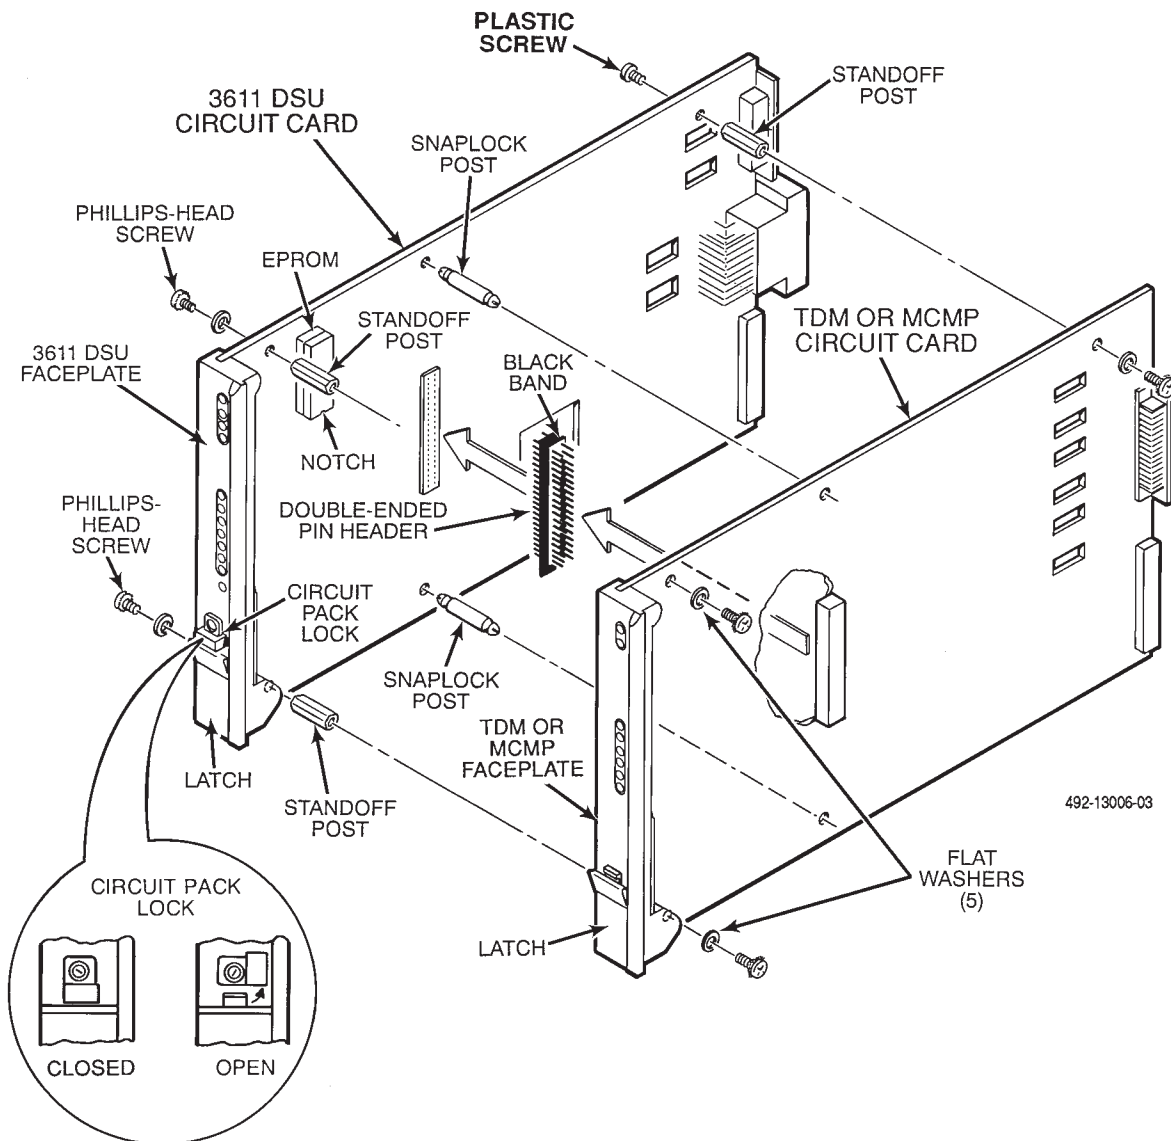
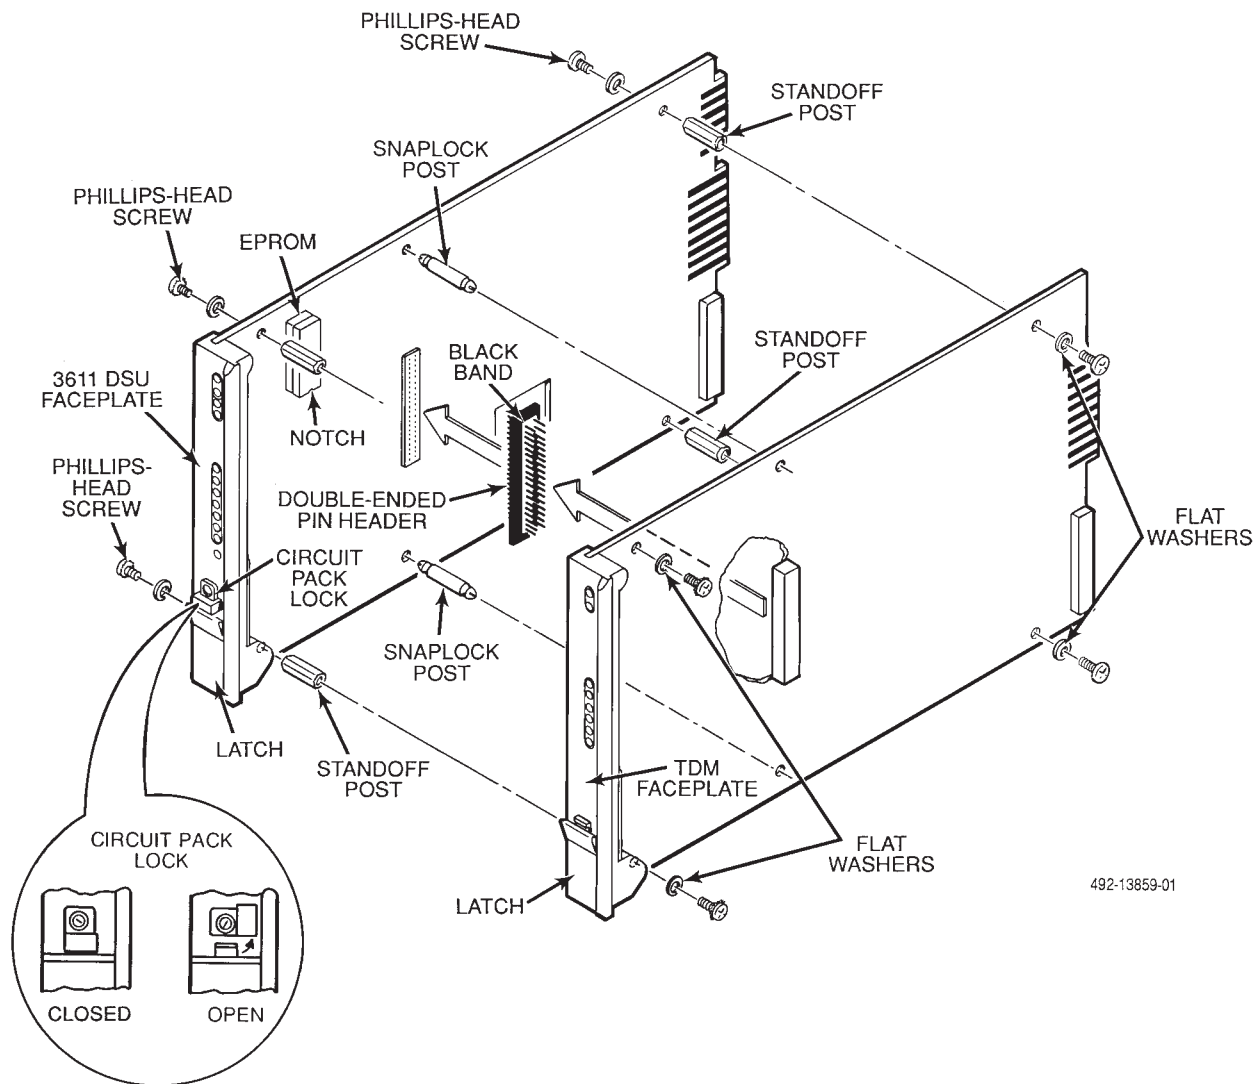

Figure 3-3. Non-Modular TDM or MCMP Installation
Figure 3-5. Modular TDM or MCMP Installation
2. Use a Phillips screwdriver to loosen the screw holding the circuit pack lock on the Model 3611 DSU, and rotate the lock to the open position (Figure 3-3).
4. Insert the two plastic snaplock posts into their respective holes in the DSU circuit card (see Figure 3-3).
1. Use a Phillips screwdriver to loosen the screw holding the circuit pack lock on the Modular 3611 DSU, and rotate the lock to the open position (Figure 3-5).
3. On the ESD workpad, insert the two plastic snaplock posts into their respective holes (See Figure 3-5).
8. Rotate the circuit pack lock on the modular DSU circuit card faceplate back into the closed position and tighten the screw (Figure 3-5).
2. Use a Phillips screwdriver to loosen the screw holding the circuit pack lock on the DSU faceplate, and rotate the lock to the open position (Figure 3-5).
4. On the TDM or MCMP side of the unit, remove the screws securing the standoff posts to the TDM or MCMP circuit card. For a non-modular unit, there are three screws and standoff posts (Figure 3-3); for a modular unit, there are four screws and standoff posts (Figure 3-5).